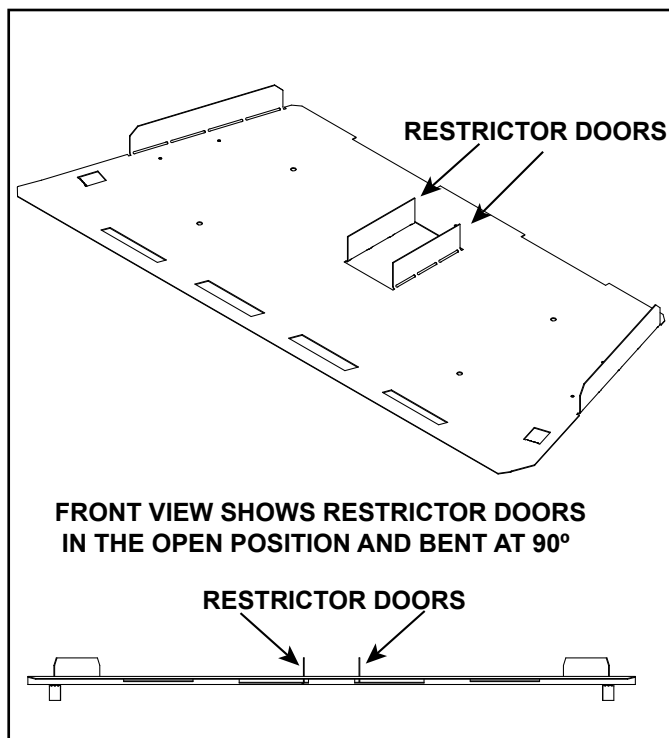

Figure 9.5 Firebox Baffle with Restrictor Doors Open
3. The restrictor doors are shipped from the factory in the open position. Ensure that the restrictor doors are bent at a 90° angle as shown in Figure 9.5.